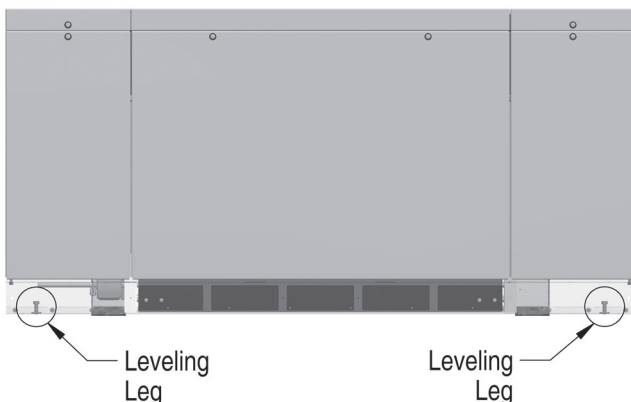

Fig. 2 — Leveling Leg Location
3. Place the unit in position and use the leveling legs to ensure that the unit is level in both directions and also plumb. Remove the front kick panel to access the leveling legs (see Fig. 2). Make sure that the foam gasket on the back of the unit forms a tight seal between the unit and the wall.